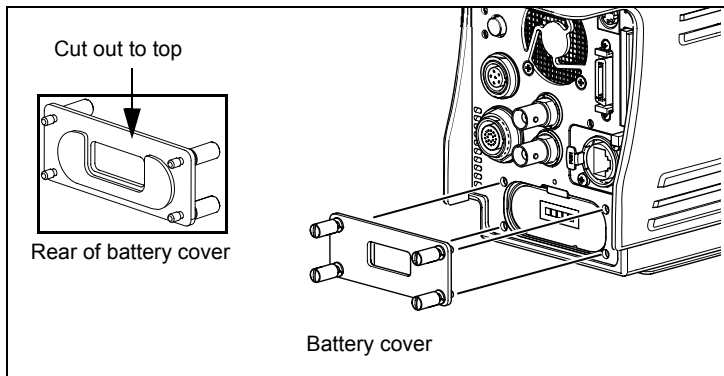

Figure 10.1
4. Replace the battery cover noting that the cut out should be to the top (Figure 10.1 inset). Tighten the four captive screws.